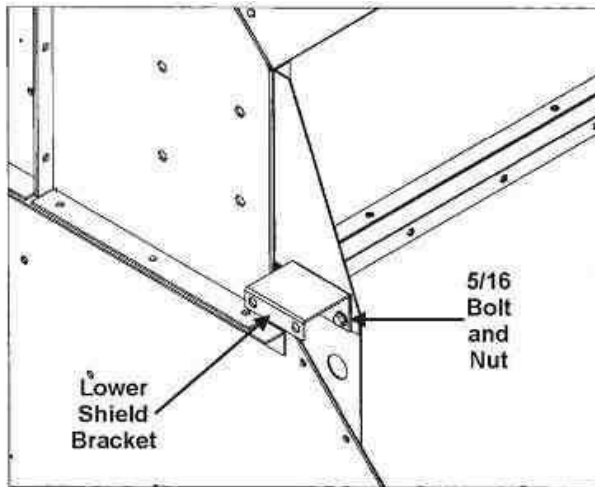

Fig. 2-14 – Lower shield bracket installation
1. Bolt lower shield bracket to end of dryer using 5/16 x 1" bolts and 5/16 nuts. See Fig. 2-14.